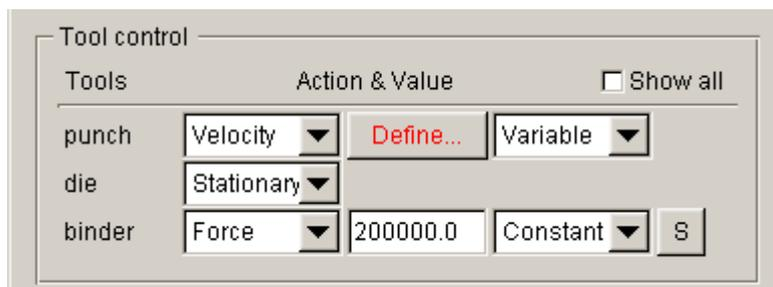
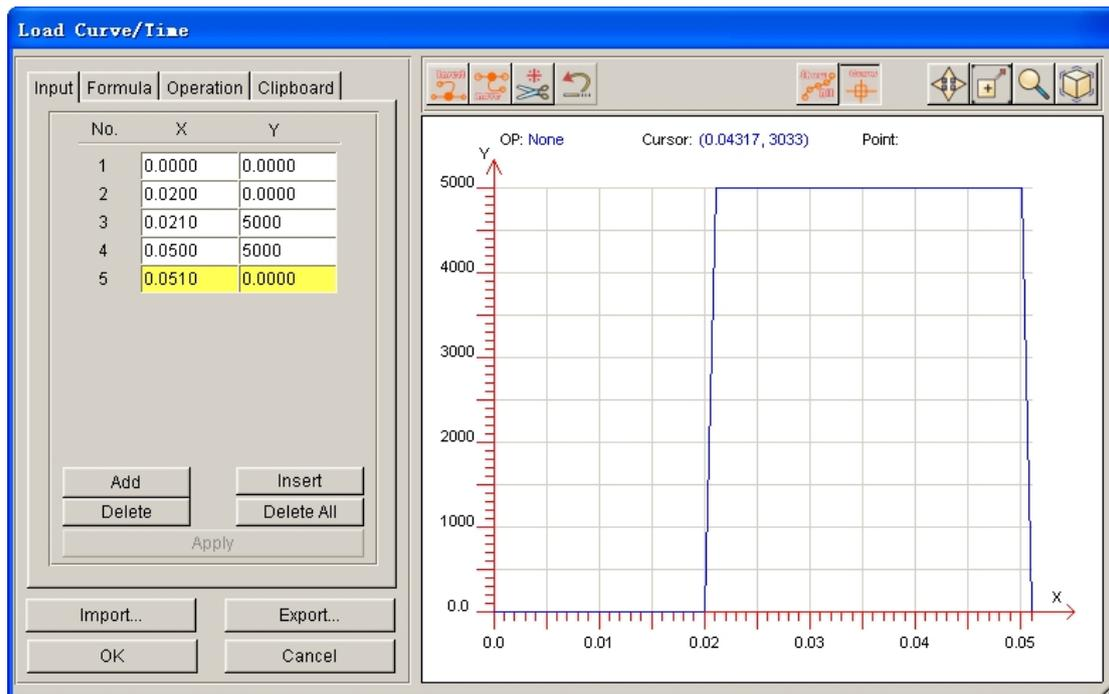

Figure 7.43 Tool control
Figure 7.44 Punch load curve definition
- From Tool control field illustrated in Figure 7.43, click the drop-down button of punch to select **Variable** option. Then, click **Define...** button to display the LOAD CURVE/TIME dialog box illustrated in Figure 7.44.
6. Use functions provided in Input page to key in the punch load curve illustrated in Figure 7.44. Click **Apply** button to show the curve. Click **Ok** button to exit the LOAD CURVE/TIME dialog box.